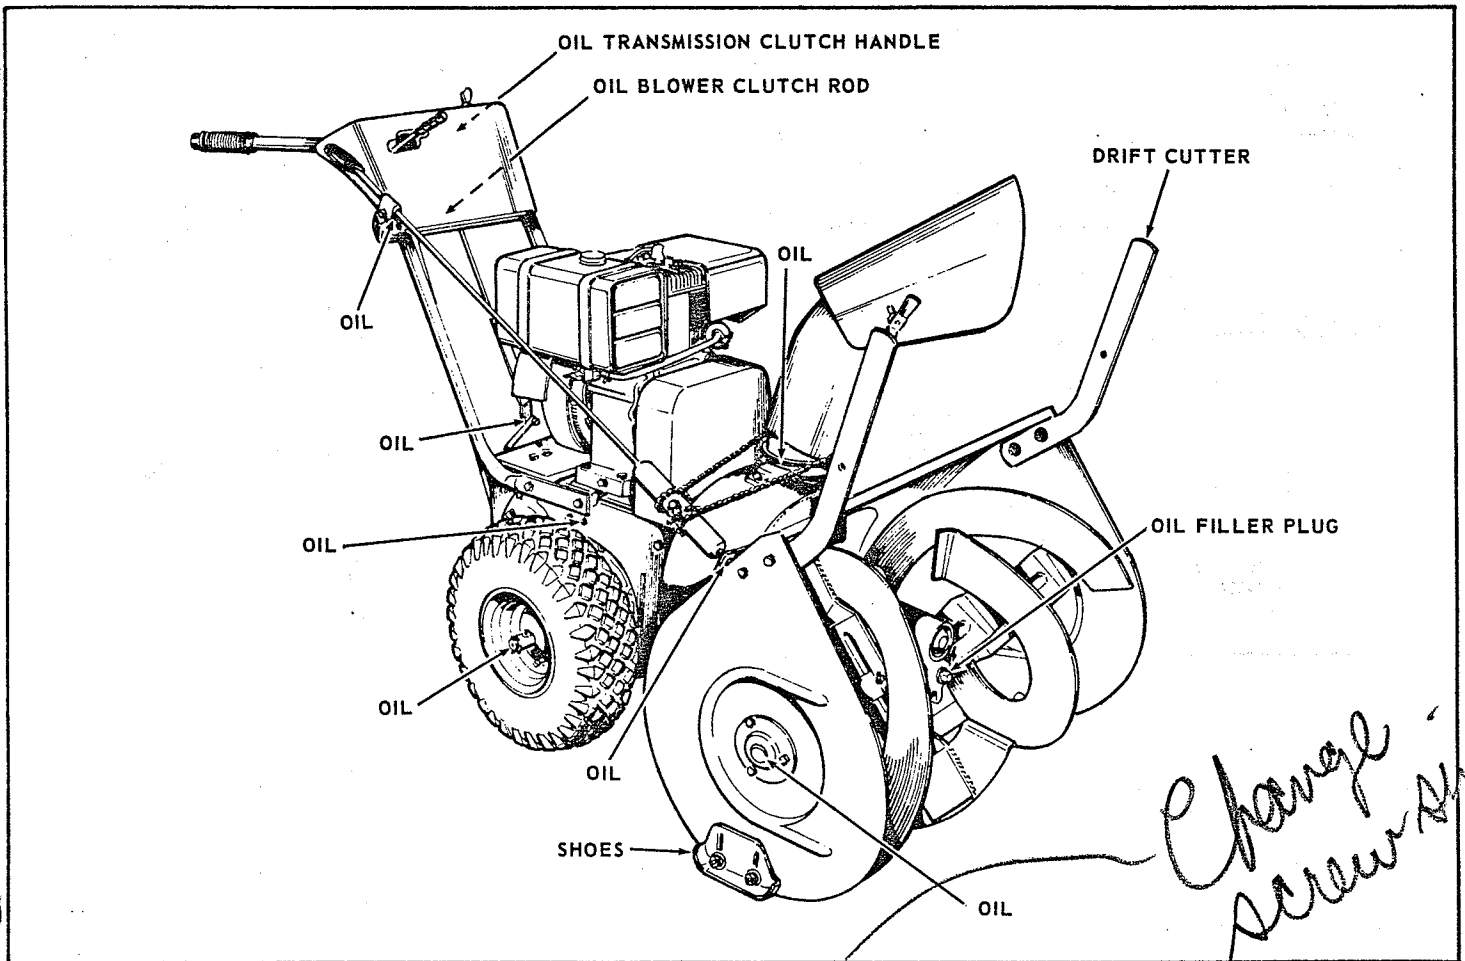
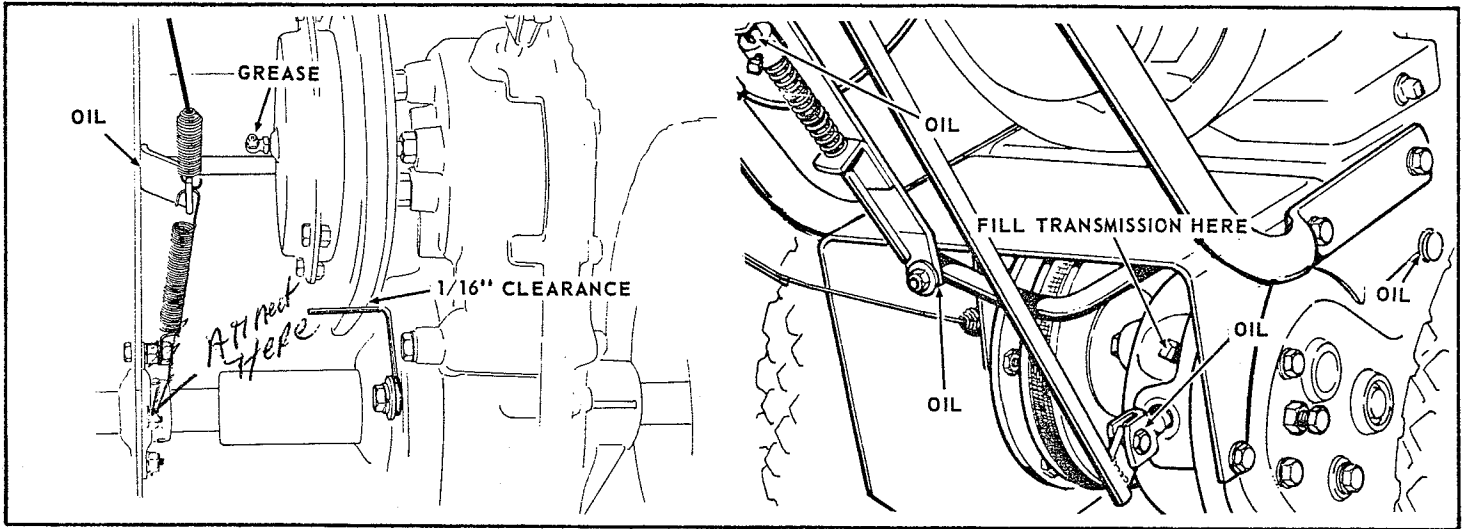

FIGURE 1: ATTACH SPEED RODS TO THROTTLE CONTROL BODY
FIGURE 6
1. Attach the left and right hand shoe to the outside of body assembly with the 3/8"-16NC x 3/4" long carriage bolt, 3/8" plain and 3/8" lockwasher. Secure with 3/8"-16NC full hex nut, which is on outside of shoe at desired elevation for your specific needs. (Sno-Away should be raised when using on gravel). See Fig. 1.
2. Attach Left and Right Hand Drift Cutters to the inside of Body Assembly with the 5/16"-18 x 3/4" long hex capscrews, 5/16" plain and 5/16" lockwashers. Secure with 5/16"-18NC full hex. nut. See Fig. 1.
1. There is one grease fitting on this Sno-Away (See Fig. 6). Lubricate with a general purpose automotive type grease every 15 hours of operation. Also the occasional application of light motor oil as indicated on Figs. 1 & 6 . will assist in operation of this Sno-Away.
4. The filler plug on the transmission is located at the rear of the unit on the top of the transmission. The transmission should be filled to the level of the oil level plug which is located on the right side of the transmission. (See Fig. 6) The drain plug is located at the bottom of the transmission.
Belt Stops are used on this Sno-Away as shown in Fig. 6. Engage Rotor Clutch and Transmission Clutch and check clearance between belt and stop. The belt stop will be properly adjusted when 1/16" clearance is visible between the stop and the belt.